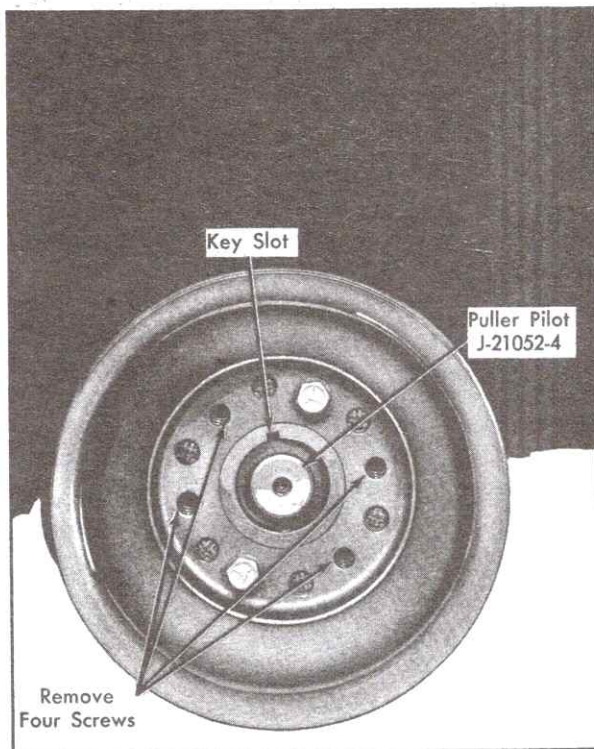
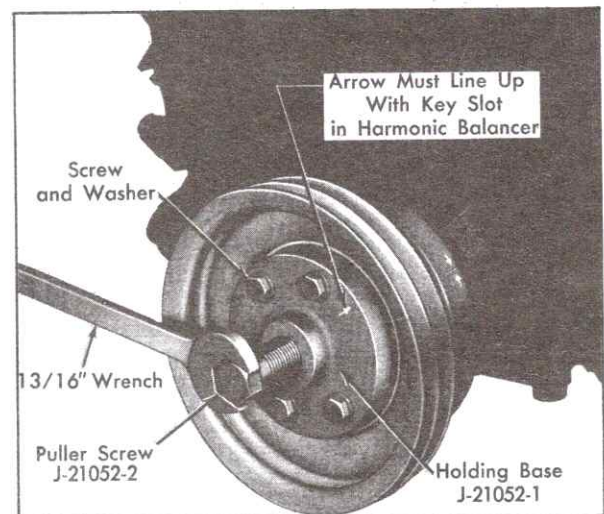

Fig. 6-119 Installing Harmonic Balancer Puller Pilot
Fig. 6-120 Harmonic Balancer Assembly Removal
13. Remove four of six cap screws that hold crankshaft pulley to harmonic balancer as shown in Fig. 6-119.
15. Install Harmonic Balancer Puller Pilot, J-21052-4, in bore in end of crankshaft, Fig. 6-119.
16. Install Holding Base, J-21052-1, on front of pulley, lining up scribe mark on base with key slot in harmonic balancer, and install four holding screws with washers finger tight, Fig. 6-120. Do not use a wrench to tighten screws.
18. Using a wrench, remove harmonic balancer assembly from crankshaft, Fig. 6-120.
9. Using Harmonic Balancer Puller Pilot, J-21052-4, Fig. 6-119, in bore of crankshaft, Holding Base, J-21052-1, on front of balancer, and Puller Screw, J-21052-2, remove harmonic balancer from crankshaft, Fig. 6-120. See Note 6-104a, steps 13 through 19. Inspect the sealing surface on the harmonic balancer hub for nicks or scratches. Replace hub if not smooth.